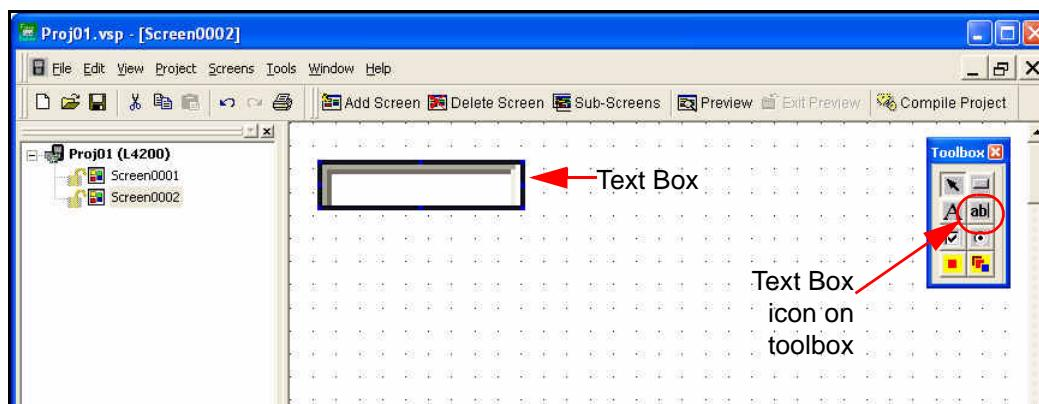

Figure 2-20 Text Box
2. Click the **Text Box** icon on the toolbox as shown in *Figure 2-20*.